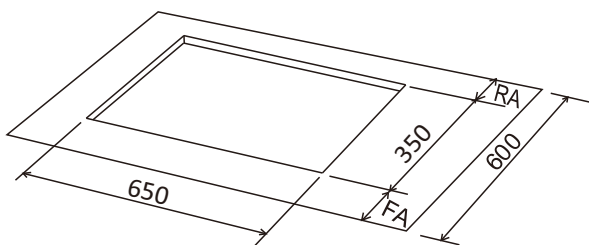

**Fig.10**
- The hob must be installed at least 70mm away from the rear wall(Fig.10 in page 11).
- There must be a distance of at least 750 mm between the hob and any wall of the cupboard for extractor hood positioned immediately above (Fig.10 in page 11).